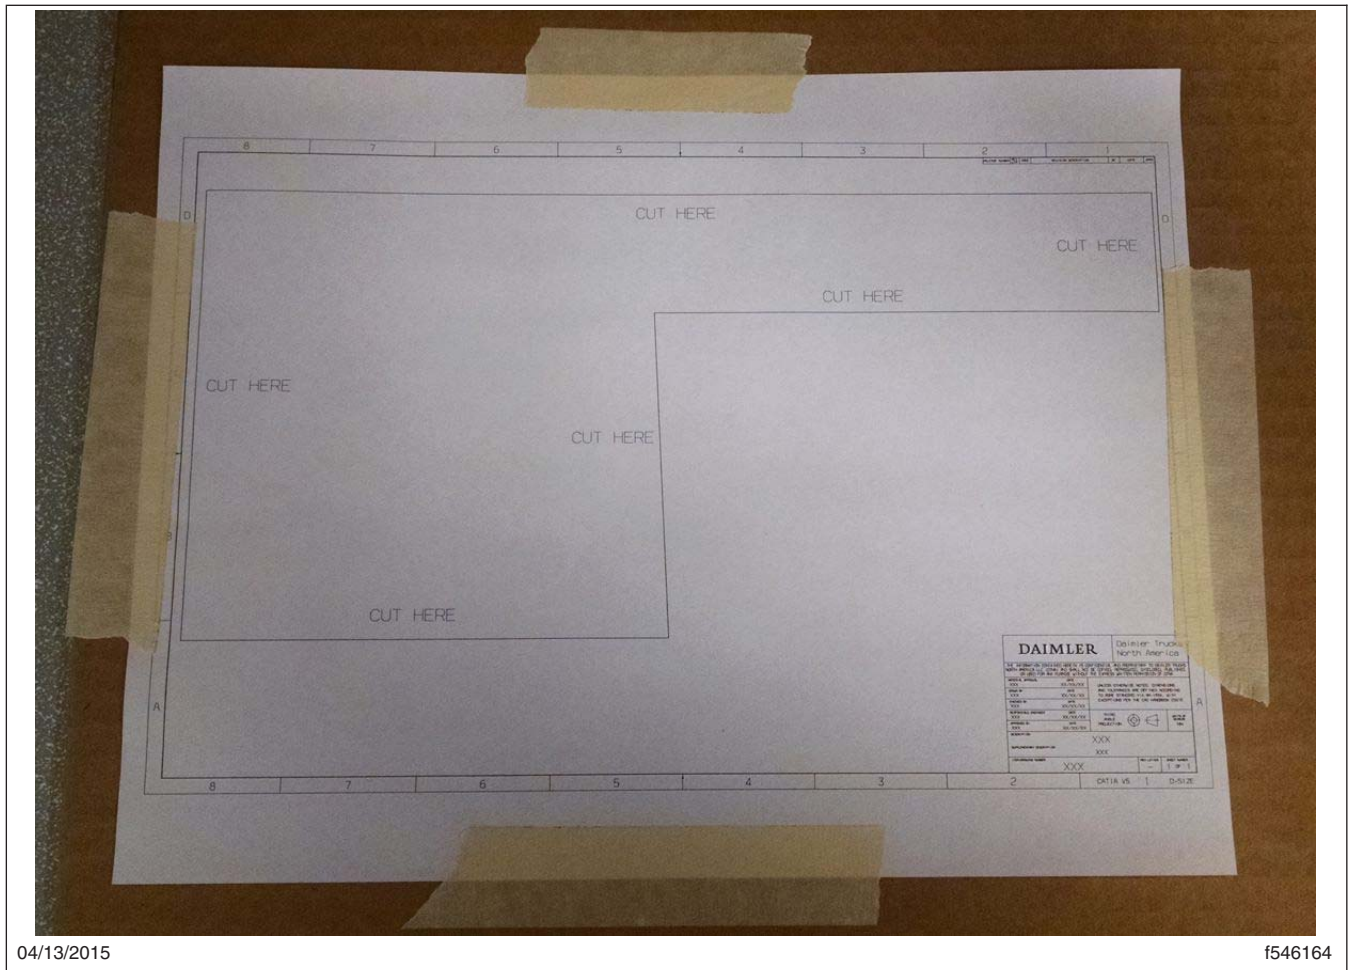

Fig. 3, Template Taped to Cardboard
- 4.3 Secure the template to a piece of thick cardboard with glue or tape. See Fig. 3.